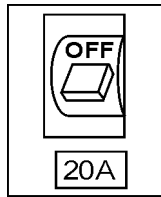

Figure 10. Main Circuit Breaker (OFF)
2. **NEVER** start the engine with the main circuit breaker in the **ON** position. Always place circuit breaker (Figure 10) in the **OFF** position before starting.